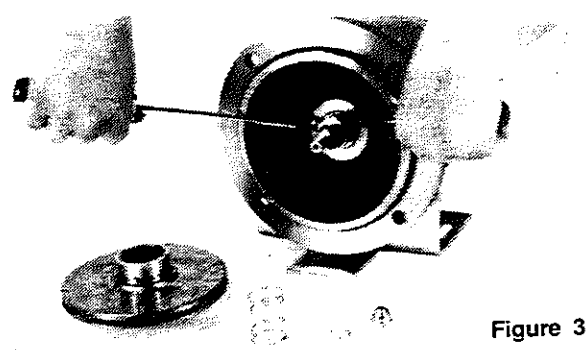

Figure 3
8. Pry off rotating member of mechanical seal from shaft by using two (2) screwdrivers (Fig. 3).